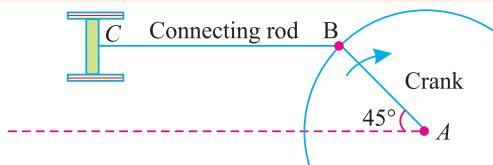

Fig. 22.15.
**Example 22.6.** The crank  $AB$  in the mechanism shown in Fig. 22.15 rotates at  $5 \text{ rev/s}$  is  $300 \text{ mm}$  long.